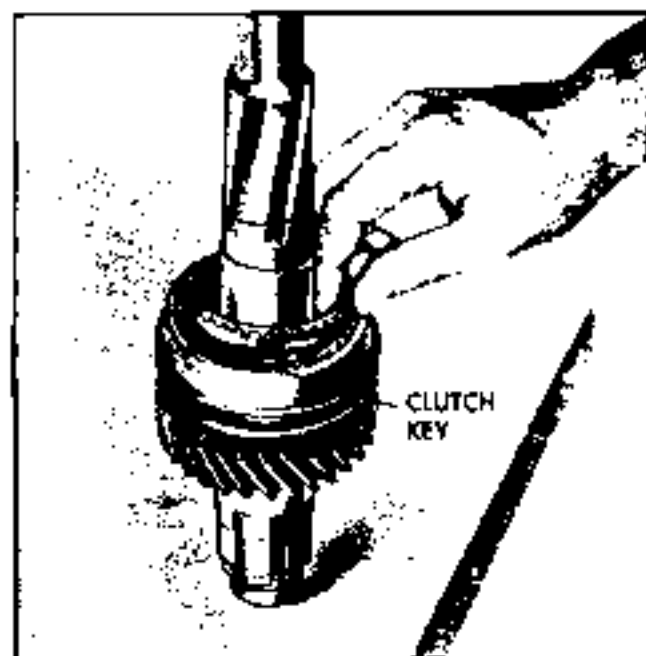

Fig. 7D-19 Installing First Speed Synchronizing Ring
1. Remove oil seal with punch or other suitable tool and discard seal (Fig. 7D-4).